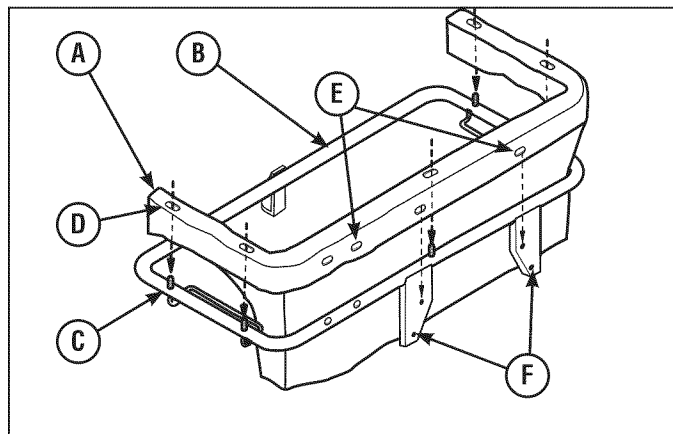

Figure 4
1. Place dust skirt (A, Figure 4) over catcher frame (B).
2. Insert all frame pegs (C) through all holes (D) of dust skirt.
*NOTE:* Elongated holes (E) in dust skirt extend to holes of frame brackets (F).